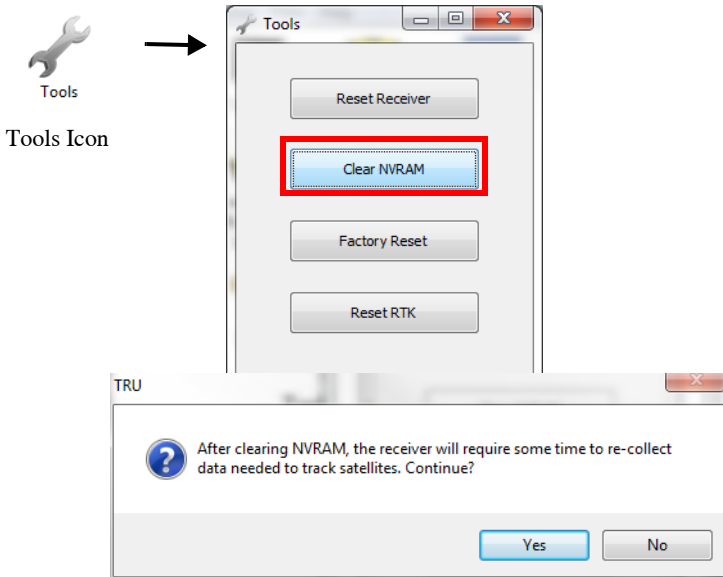

Figure 5-11. Tools Dialog Box
The *Tools* dialog box displays (Figure 5-11) that allows the user to reset the receiver and to clear the NVRAM.
3. Press **Clear NVRAM** on the *Tools* dialog box (Figure 5-11).
The *SRU confirmation screen* displays (Figure 5-11).
4. On the *SRU confirmation screen*, press **Yes** to continue (Figure 5-11).